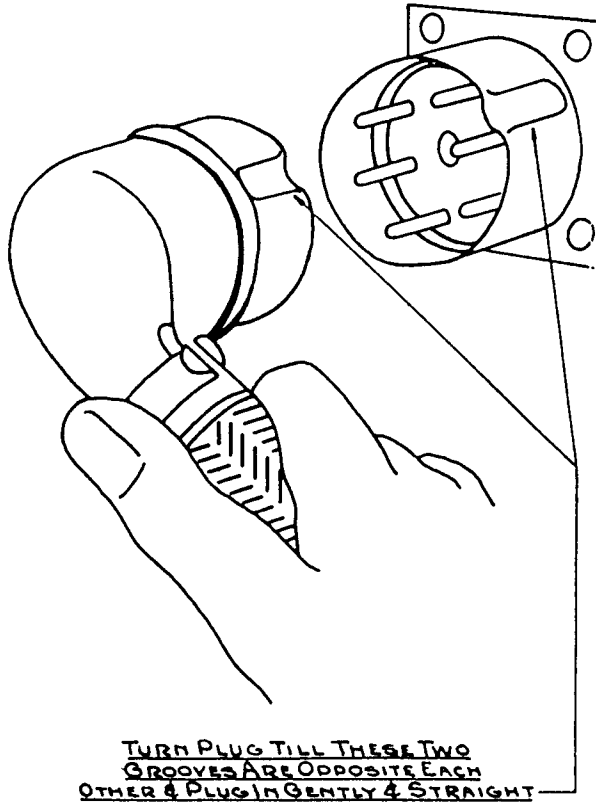

FIG. 3—INSERTING A CONNECTOR
5. Fig. 3 shows the proper method of inserting a connector plug. GREAT CARE MUST BE TAKEN WHEN PERFORMING THIS OPERATION OR SERIOUS DAMAGE MAY RESULT.